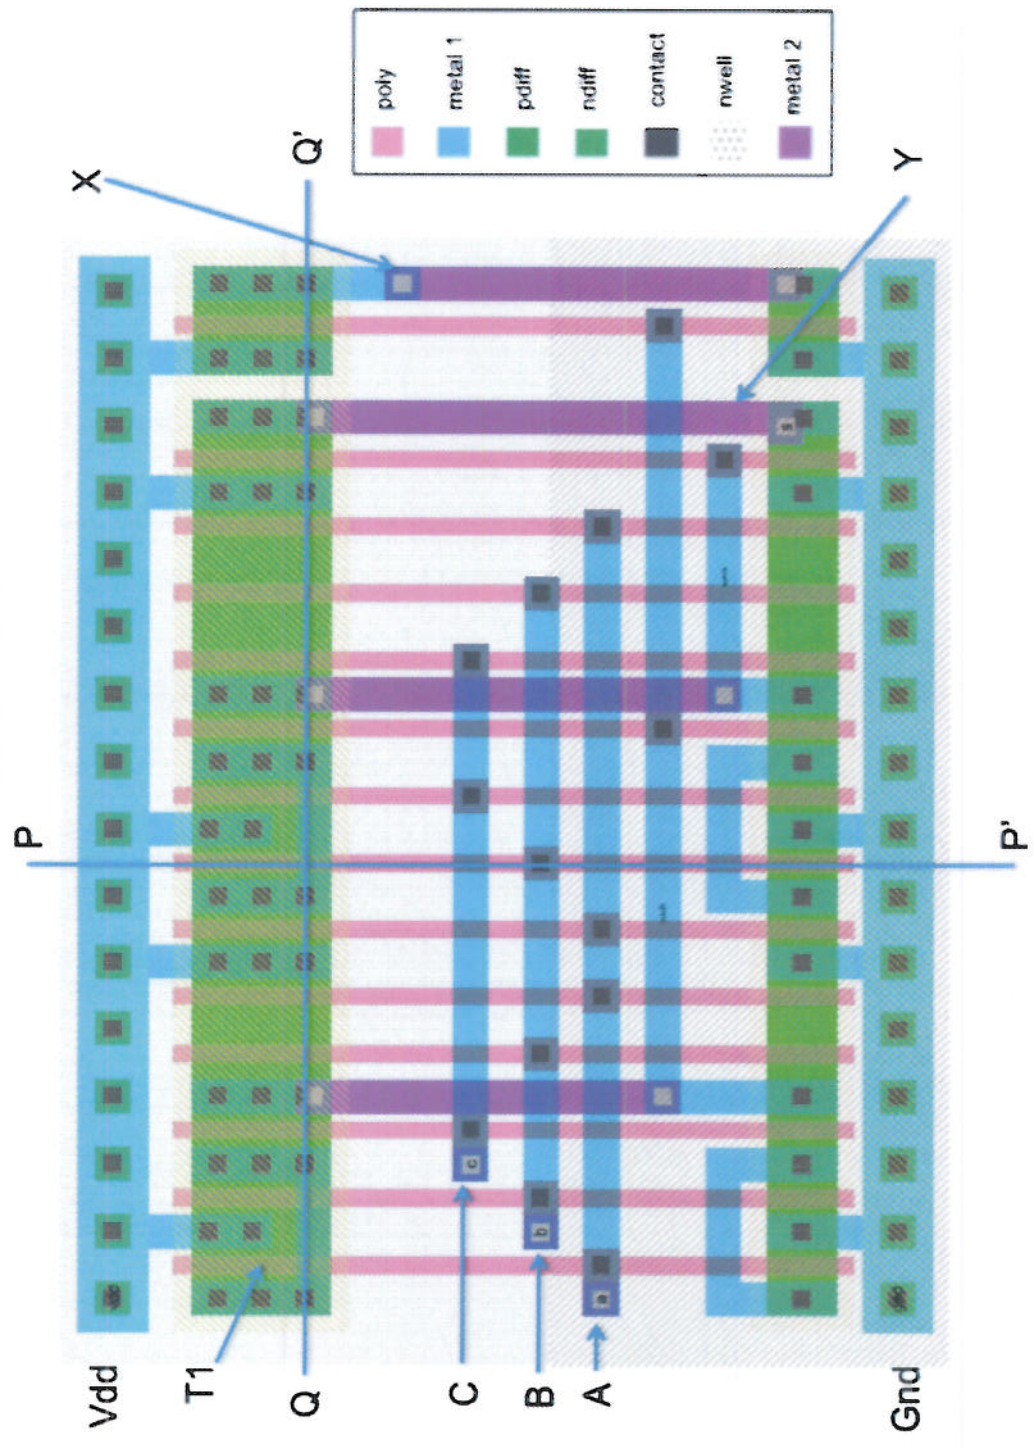

Figure 1.1 Layout of full-custom cell for Question 1
1. a) *Figure 1.1* (see the colour supplementary sheet) shows the layout of an n-well CMOS circuit with five terminals: A, B, C, X and Y. Extract and draw the transistor-level schematic diagram for this circuit. Note that the supply signals are labelled as Vdd and Gnd.
- c) For the layout shown in *Figure 1.1*, draw the vertical cross section along the lines PP' and QQ'. Label your diagram indicating the n-well region and the different types and levels of doping (e.g. p-, n+ etc).